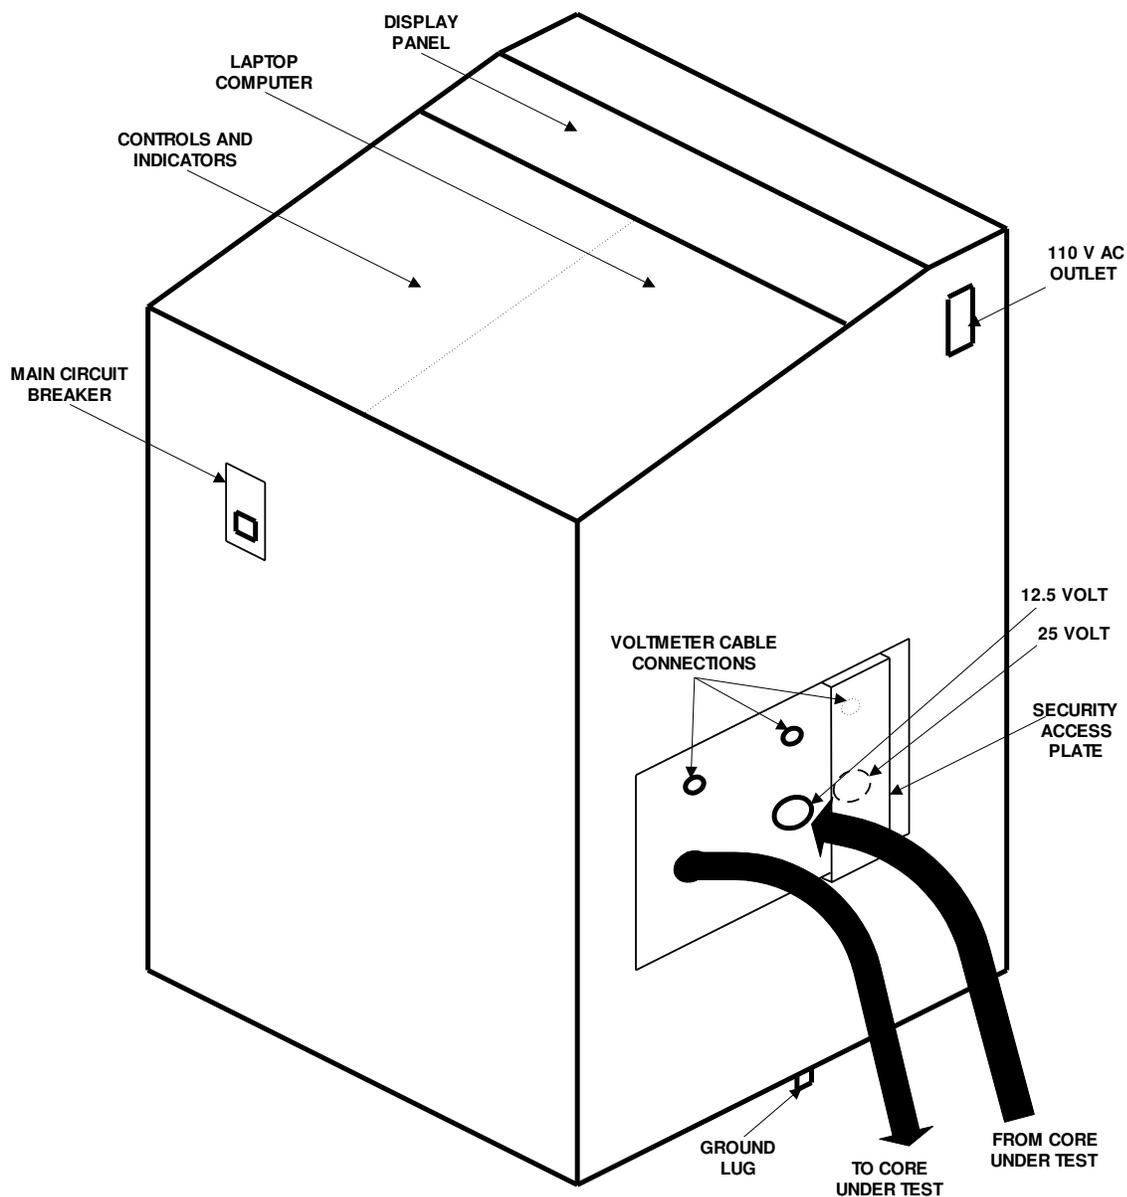

Figure 1-2. Overall View, CL25 Test Set
The CL25 tester is self-contained in a metal enclosure, as shown in Figure 1-2. All operating controls for the tester are located on the top of the enclosure. These include the display
2. Place a protective pad over the control panel on the front of the Test Set. Refer to Figure 1-2. Remove the display unit and place it on the pad. The display unit is secured with four screws through the front panel. Use the panel handles to lift the unit straight out of the Test Set and onto the pad. Verify that all circuit card assemblies are properly seated in their sockets. Replace the display unit and secure it with the four screws.
The following procedure is designed to verify proper installation of the Test Set. The first part of the procedure, steps 1 through 4, is designed to verify that ac operating power is present and that the power input circuits on the Test Set are operating satisfactorily. The second part of the check out procedure, steps 5 through 24, is designed to check the voltage control circuits in the Test Set. Note that the second part of the test requires a stator core to serve as a load for the Test Set. The core must be of sufficient size to adequately check the Test Set performance. The core should be from a motor with a horsepower rating of 500 to 1250. Throughout this check out procedure, refer to Figures 1-2 and 3-1 for the location of the different controls and indicators.